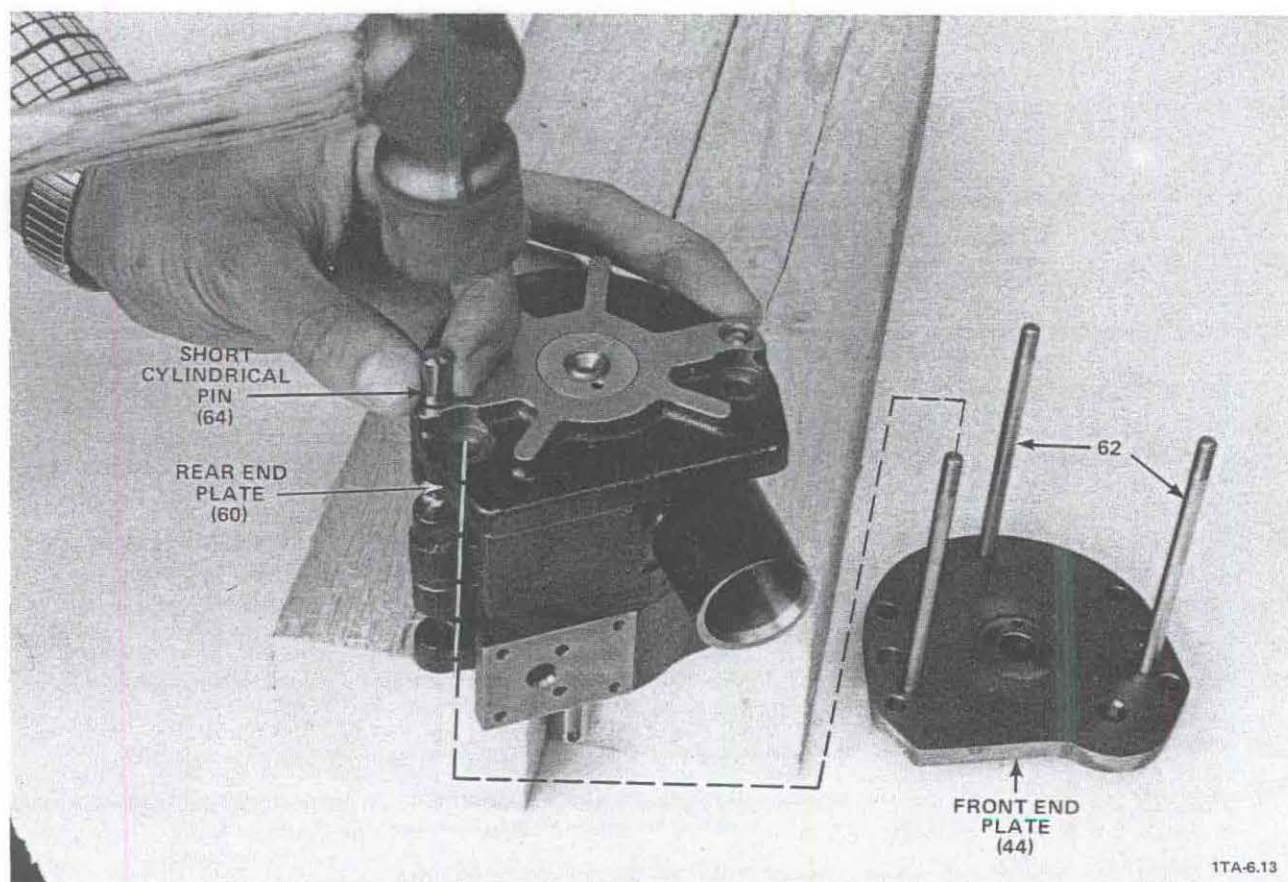

Figure 5-21. Driving the Short Cylindrical Pins that Align the Rear End Plate and the HV Cylinder (D2A Pump Model Shown)
- (2) Align the two alignment holes in the rear end plate (60) with the two alignment holes in the HV cylinder (55), then use a rubber hammer to drive two short cylindrical pins (64) until the pin ends are slightly recessed in their alignment holes in the rear end plate (60) (see Figure 5-21).
- h. Turn the partially assembled module over so that the other end faces up, then fit an O-ring (47) into the O-ring groove in the second stage pump cylinder (46).
j. Attach the front end plate (44) to the partially assembled module as follows:
- (1) **NOTE:** The side of the front end plate (44) that has the threaded studs (62) extending out of it faces the second stage cylinder (46) (see Figure 5-21). The edge of the front end plate that has a small hole is the bottom edge.